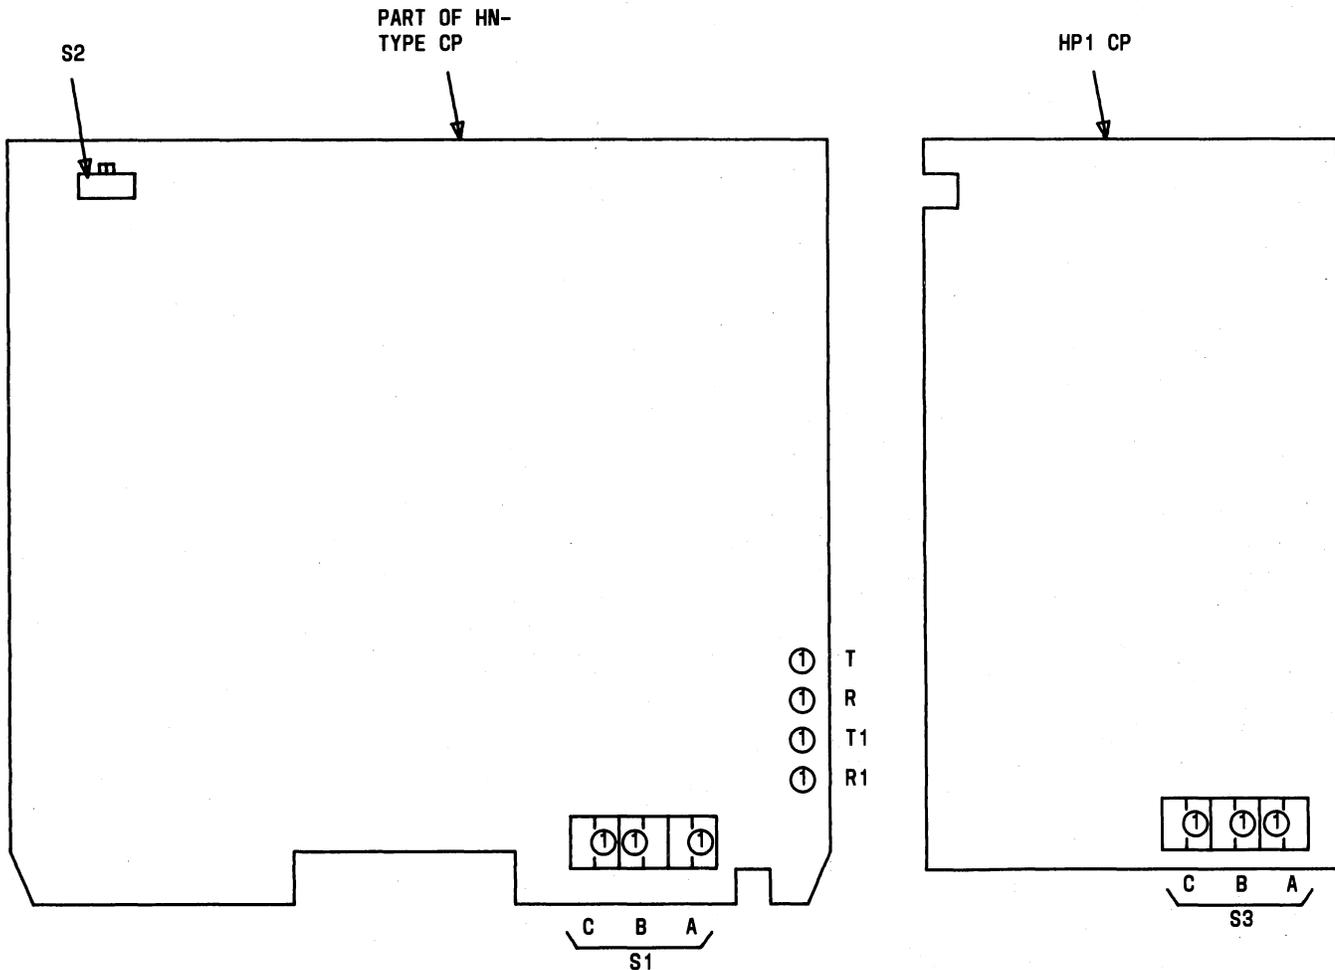
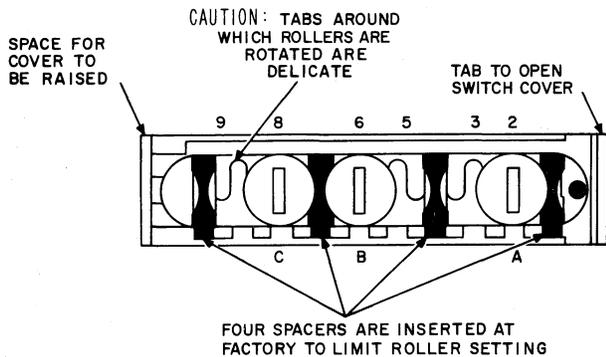

Fig. 1—DSU Option Switches
Fig. 2—Detail of Switch for Installing Options
2.02 ♦Circuit packs (CPs) used in the DSU are given in Table A. For the earlier manufactured CPs that use the KS-20983-L2 switch the HP1 CP contains switch S3, and HN-type CPs contain switches S1 and S2 which are used to select the specific options. The switch locations are shown in Fig. 1 and the options are given in Table B. Figure 2 shows the three sections or rollers: A, B, and C of switches S1 and S3.♦ To access the switch rollers, the hinged protective cover must first be opened by raising it from the end marked with a dot. Each switch section roller is individually adjusted to one of two positions by using the screwdriver provided to **gently** rotate the adjustable roller. Switch positions are numbered as shown on the protective cover.